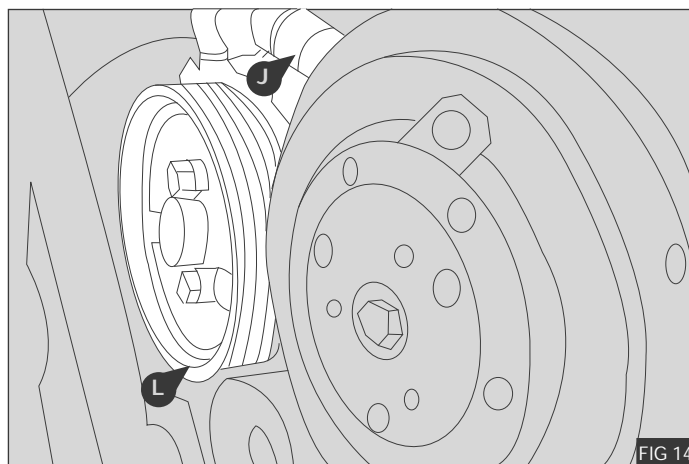

FIG 14
3. Re-install the PAS pump rotor (L) to the PAS pump (J) using the OE bolts - Fig 14
4. Torque the OE bolts to 29 Nm / 21.4 lb.ft - Fig 14
**Warning :** Check PAS pump rotor (L) is fitted correctly, it is possible fit the wrong way round